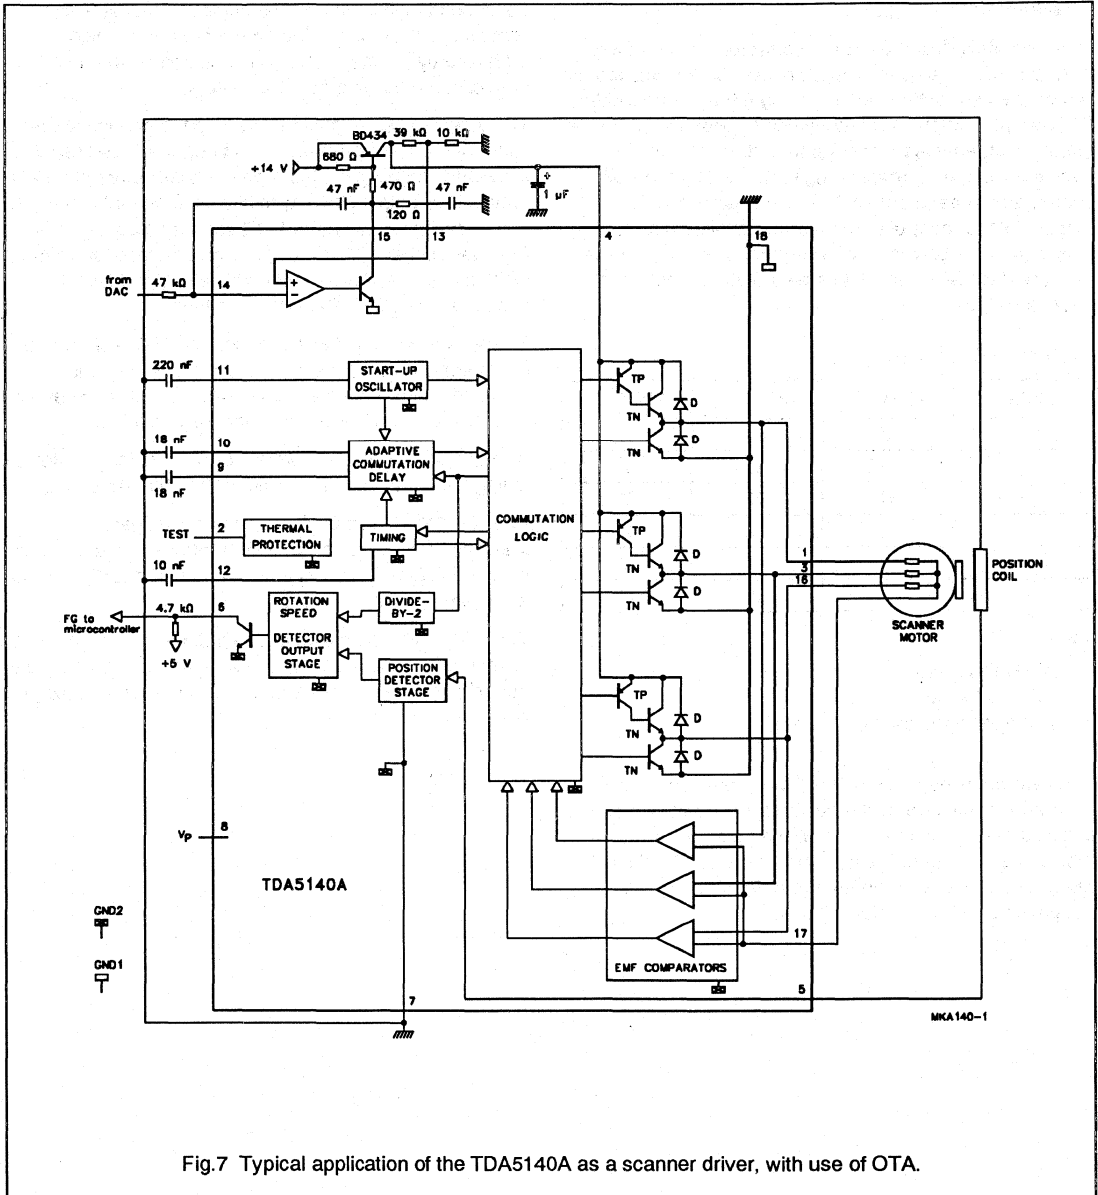

Fig.7 Typical application of the TDA5140A as a scanner driver, with use of OTA.
**Introduction (see Fig.7)**
For the control an external transistor is required. The OTA can supply the base current for this transistor and act as a control amplifier (see Fig. 7).